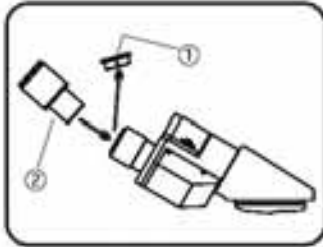

Fig. 10
### 3 Attaching the Eyepiece Lenses (Figs.10 & 11)
1. Remove the eyepiece cap ①. (Fig. 10)
2. Insert the eyepiece lens ② into the observation tube. (Fig. 10)